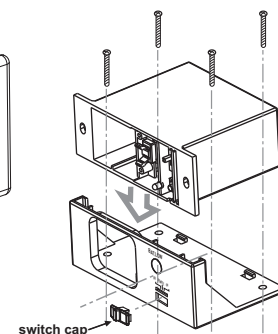

Figure 3
Auto Mode. See Figure 3
- Slide the Remote Receiver into the fireplace mounting plate. See *Figure 3*.